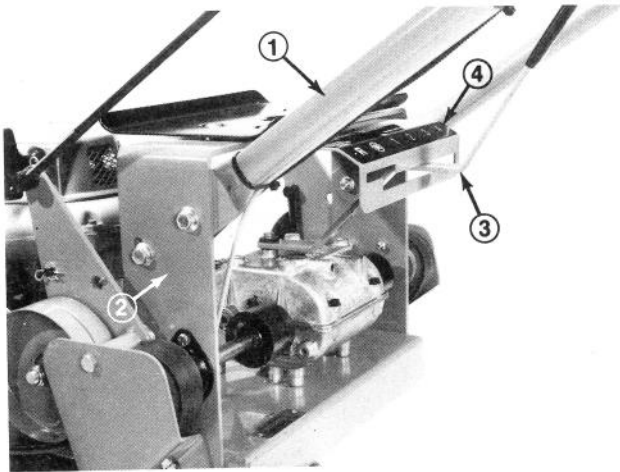

Figure 1
1. Align upper handle mounting holes with mounting holes in frame and secure each side with (2) 3/8-16x1" lg. flange capscrews and flangenuts (Fig. 1).
1. Insert shift lever thru slot in control panel and align mounting hole in lever with mounting shaft on transmission. Do not remove rubber washer on top of transmission. Secure lever to transmission with 1/4-28x3/4" lg. capscrew, lockwasher and plain washer. Torque capscrew to 100-125 in.-lb (Fig. 1).